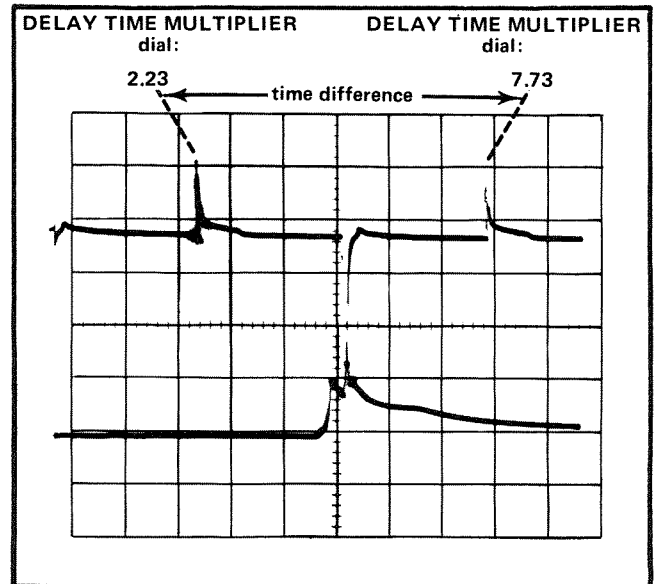

Fig. 2-12. Measuring time difference using delayed sweep.
2. Set the VOLTS/DIV selector to produce a display about three divisions in amplitude (see Fig. 2-12).
**Example:** Assume the first dial setting is 2.23 and the second dial setting is 7.73 with the TIME/DIV set to 5 μs (see Fig. 2-12).